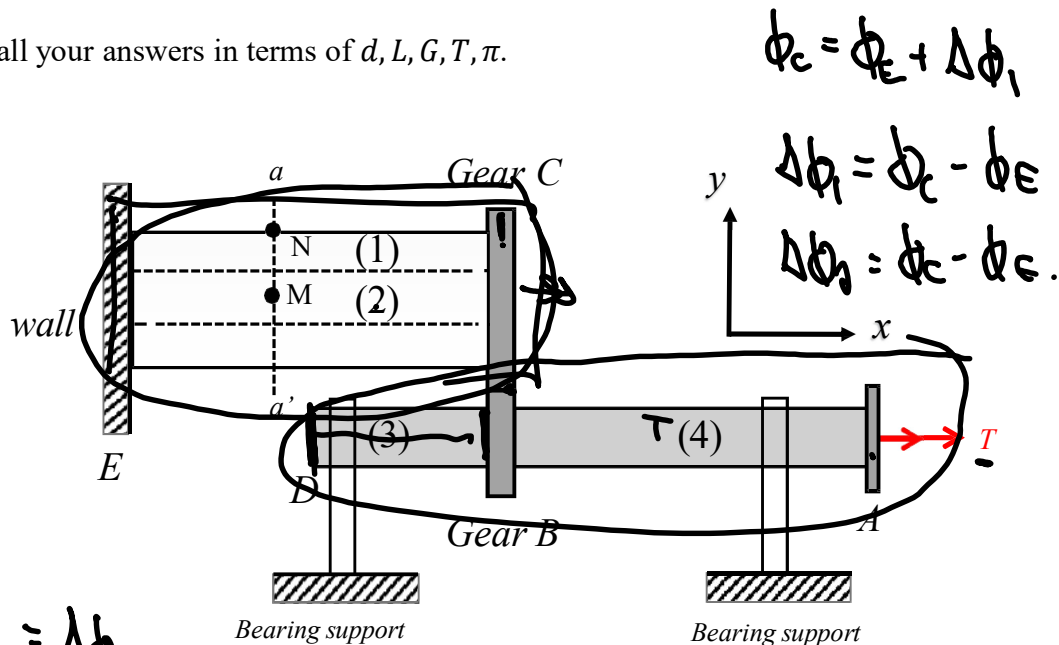

Fig. 3(a)
- Consider the cross section aa' for the shafts (1) and (2), show the magnitude of the shear stress as a function of the distance from the center on Fig. 3(b). Mark the critical values in the diagram.
- Consider the points M and N on the cross section aa' , shown in Fig. 3(c). Sketch the stress states at M and N on the stress elements on Fig. 3(d). ↖